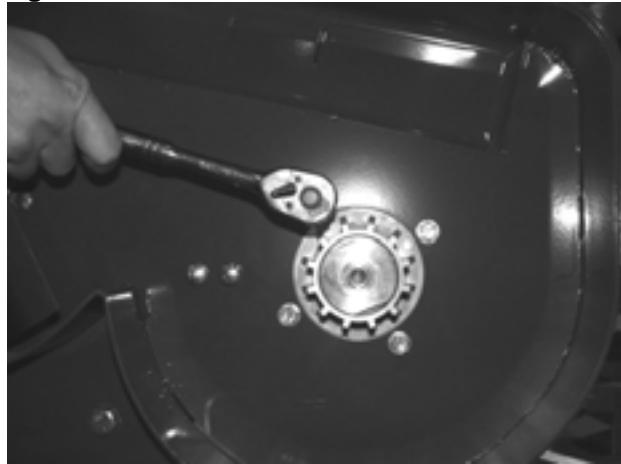

Figure 50
8. Using a 1/2" socket, remove spindle mounting bolts **Figure 50**.